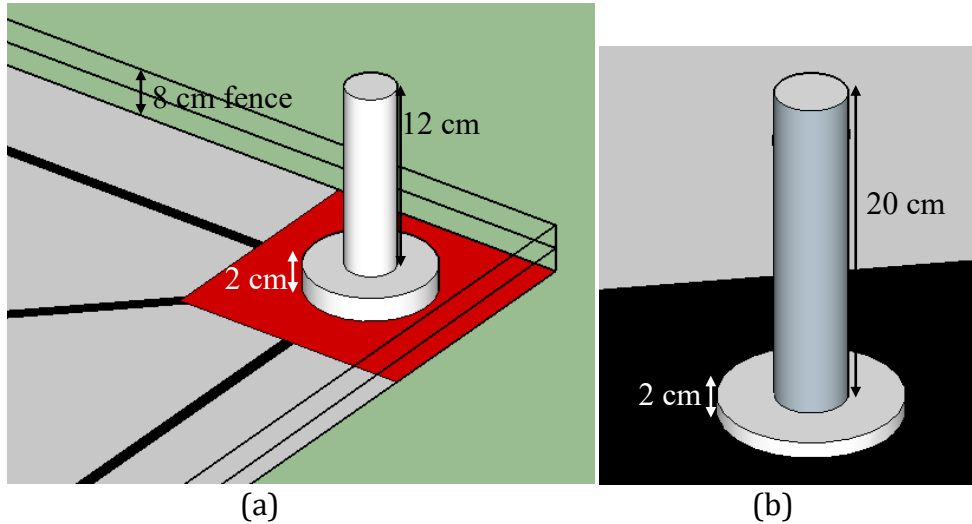

Figure 03: (a) 3D close up view – Fence and poles at the corners of the play field A, B
- All poles are in white colour, and placed on a 2 cm high white base as denoted in Figure 03.